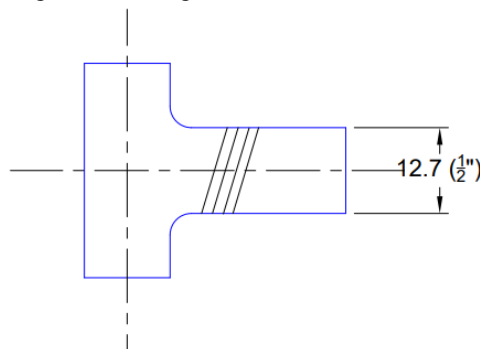

Figure 4.1 T Joint
4.1 Preparation of PVC material for pipe threading and fitting as shown in the figure 4.1